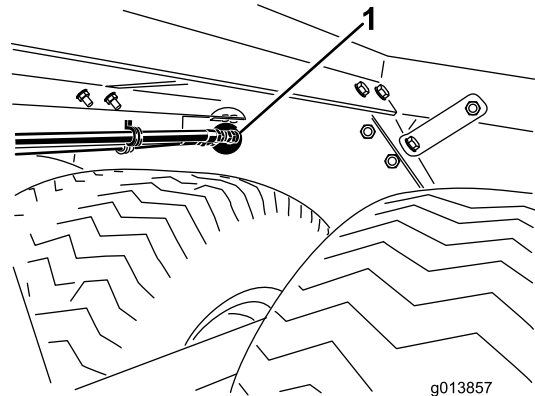

Figure 2
5. Ensure that the inlet and outlet fittings and the hose guide mounting bracket all fit cleanly within the round holes in the ProPass chassis rear wall (Figure 2).